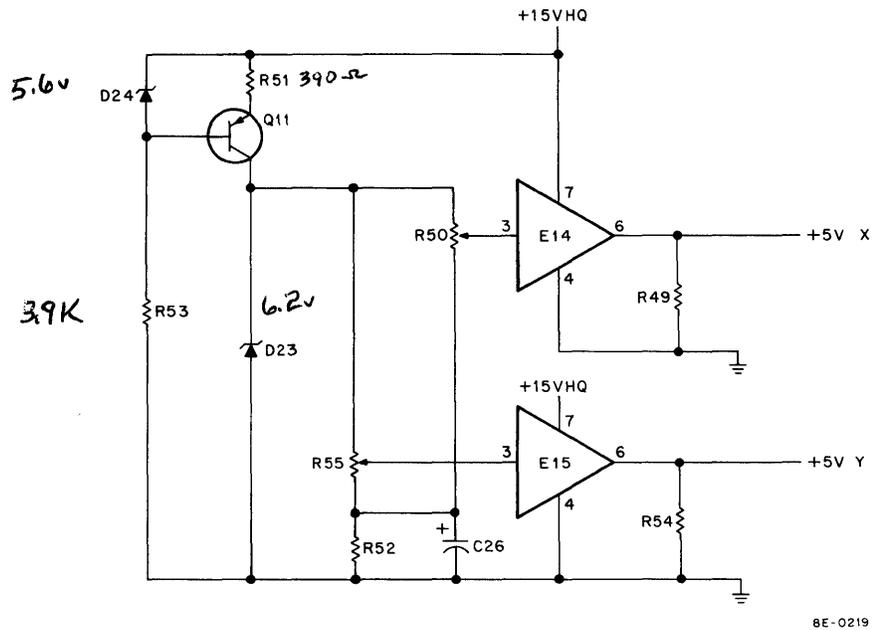

Figure 4-44 +5V Reference
4.4.2.7 Positive Reference Source – The +5V reference is used by the analog switches to supply a constant current to the summing junction (see Figure 4-44). E14 and E15 are adjusted to maintain a constant output current. The output will be adjusted to $5.12V \pm 5\text{ mV}$ and the amplifiers will maintain this level as current requirements change.